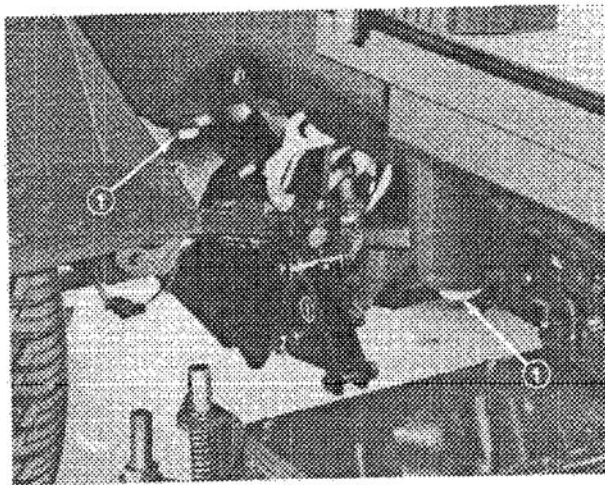

Figure 46
CHANGING HYDRAULIC OIL (Fig. 46 & 47)
2. Remove drain plugs (Fig. 46) from both ends of reservoir and let hydraulic oil flow into drain pan. Re-install and tighten plugs when hydraulic oil stops draining.